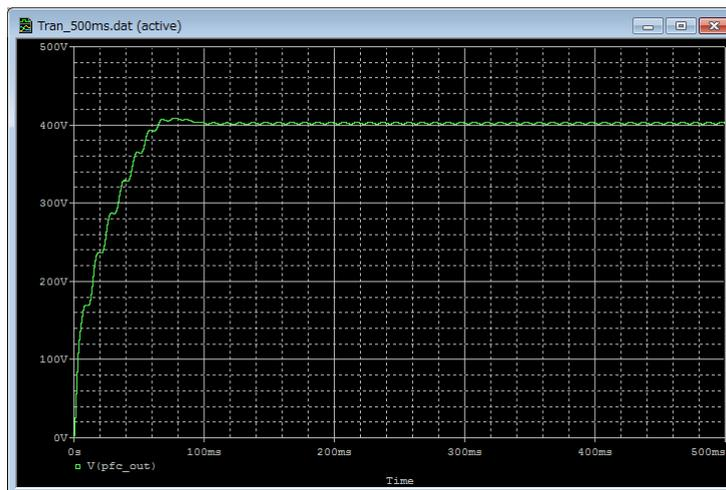

Fig. 5.10 Simulation waveform view (Example: Output voltage waveform)
3. Then, its waveform appears in the graph window of PSpice A/D as shown in Fig. 5.10.